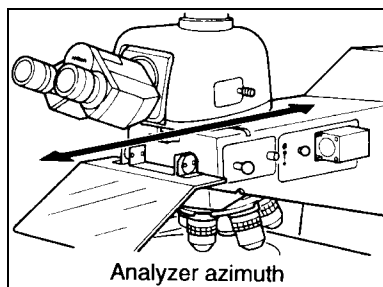

Figure 1-26
- Analyzer azimuth is shown in Figure 1-26.